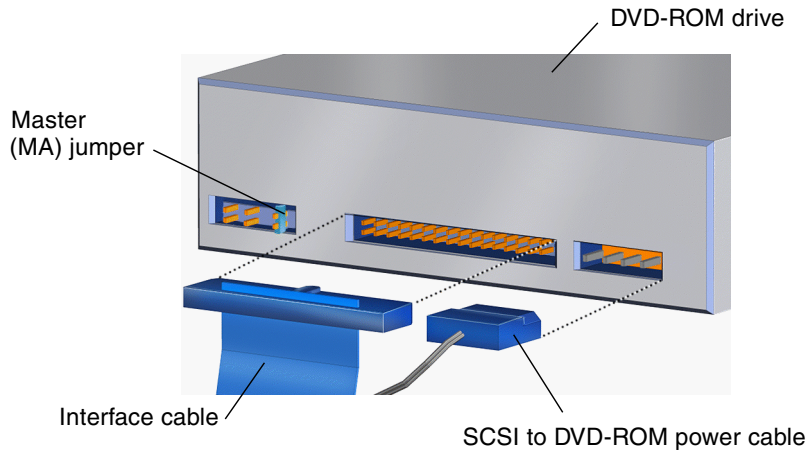

FIGURE 12-13 Location of the DVD-ROM Master Jumper
7. **Verify that the DVD-ROM drive is configured for master (MA) mode operation (FIGURE 12-13).**